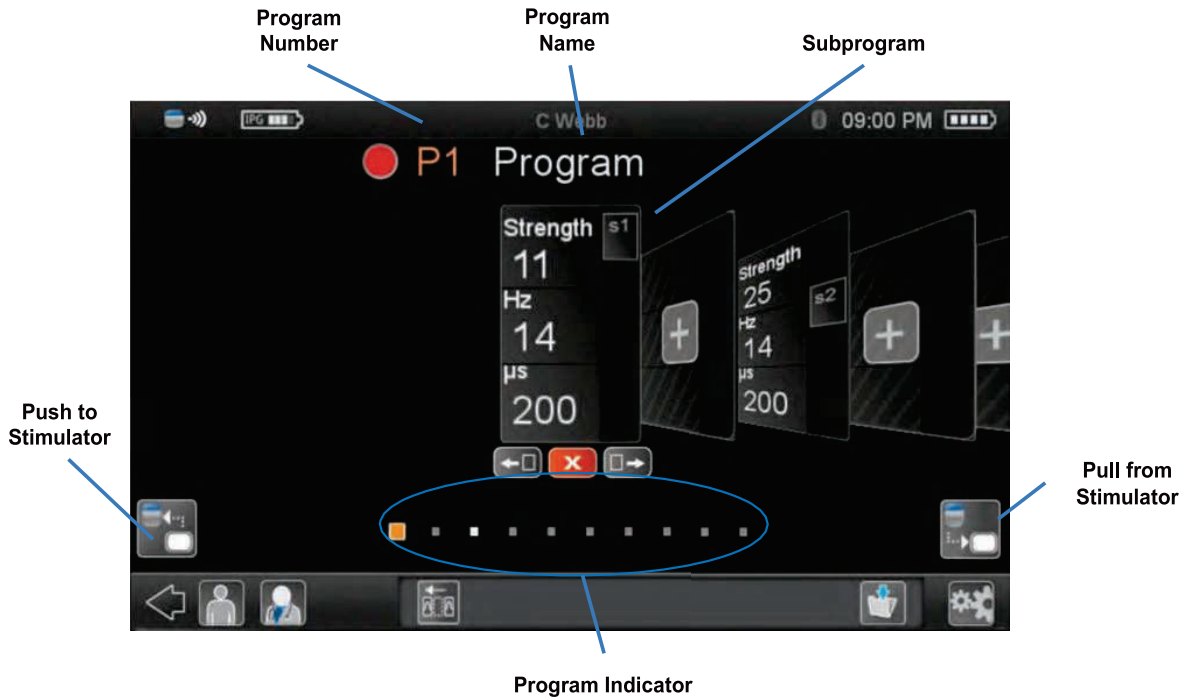

Figure 22. Program Management screen
To access the Program Management screen (Figure 22):
1. Drag left or right in the Program Management screen (Figure 22) to select a program.